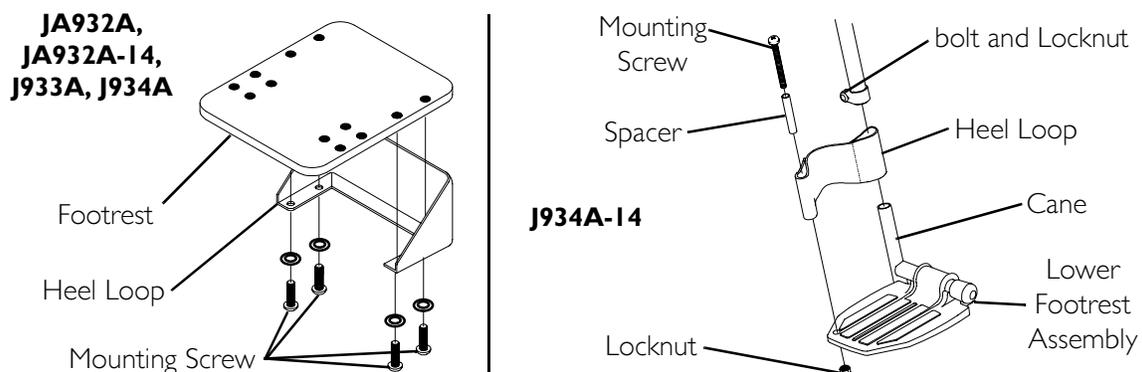

FIGURE 4.3 Heel Loop Replacement
NOTE: For this procedure, refer to FIGURE 4.3.
3. Position the new heel loop as shown in FIGURE 4.3 and reverse STEPS 1-2 to reassemble.